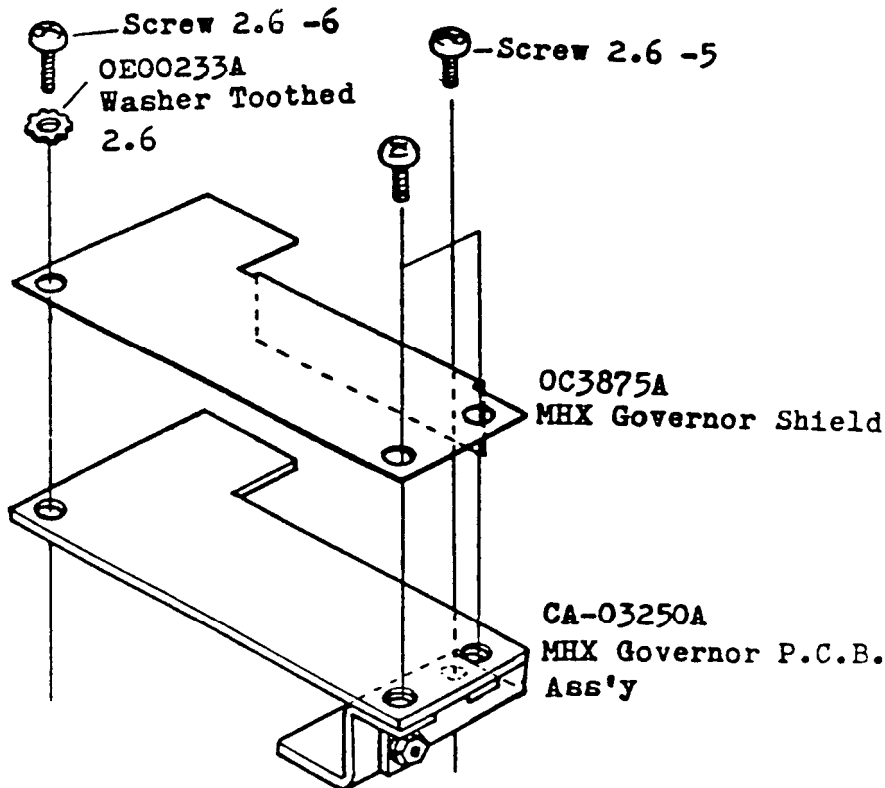

Fig.6
Refer to Fig.6, 7 and 8.
- (3) Assemble the MHX Governor Shield referring to Fig.6.